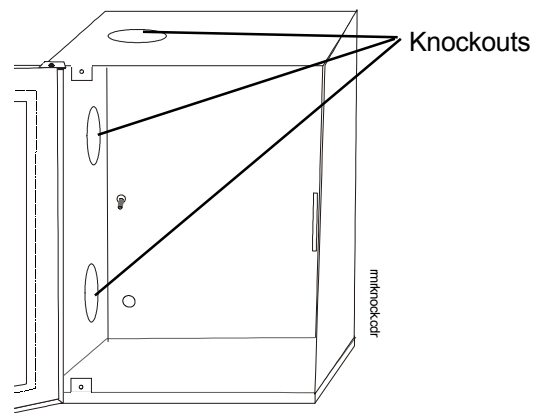

Figure 3: Knockout Locations
2. Pull the required wiring into the CAB-RMRF cabinet through the knockouts provided (refer to Figure 3).